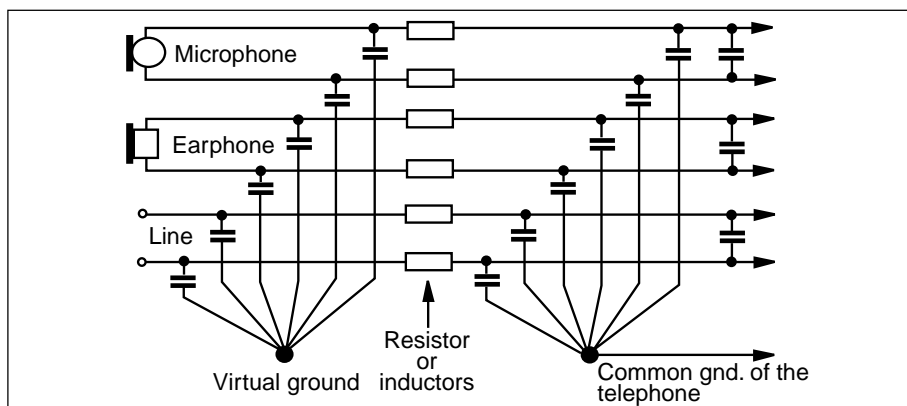

Figure 23. RFI elimination in the wiring.
- 8). A virtual ground may have to be created into which all outgoing cables are decoupled in order to bypass the RF- signal. See fig. 23.